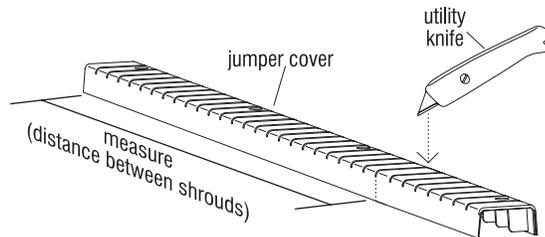

Figure 12
28. Place a jumper cover onto a protective surface and transfer the measurement from step 27 to the cover. Using a utility knife, cut the jumper cover along the slits in the cover, then cut down along the sides and separate the cover apart (Figure 12).